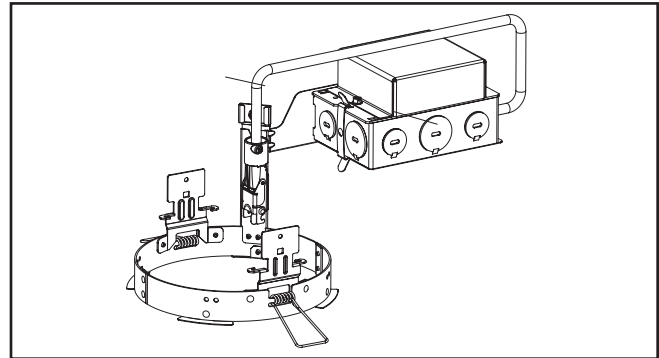

Figure 4.
1. Remove LED engine from protective packaging (Figure 4.).